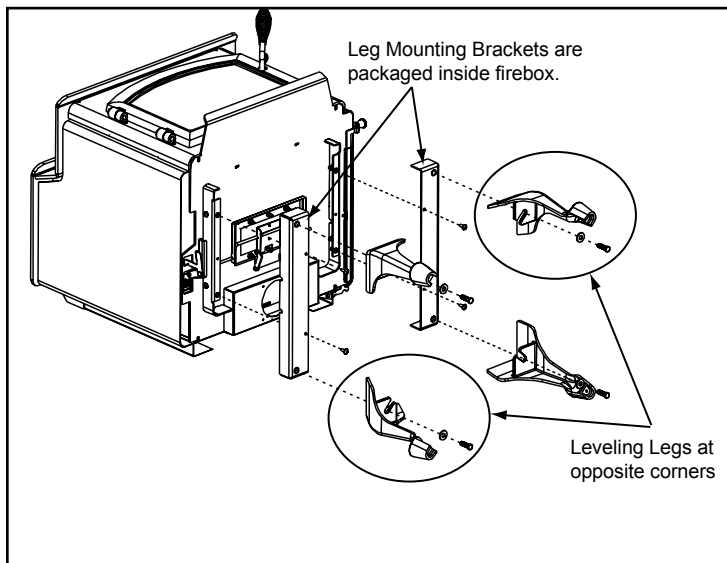

Figure 23.1
3. Loosely assemble bolts into the corner of the mounting brackets for leg attachment. **Figure 23.1.**
4. Slide legs onto mounting brackets and tighten. Make sure the legs are up against the bracket. There are leveling bolts in 2 legs. These leveling legs should be in opposite corners. **Figure 23.1.**